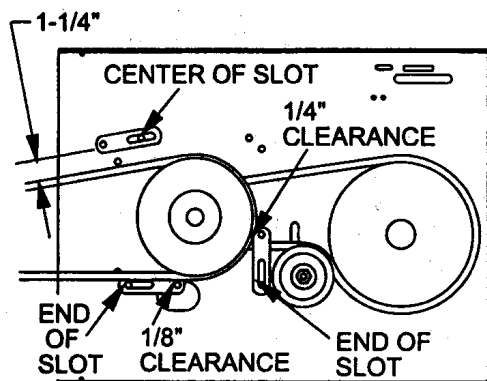

Figure 43
5. Install new belt around engine and drive pulleys (Fig. 43).
6. Slide idler pulley in engine frame to tension traction belt (Fig. 43).
8. Check the belt guides under the engine frame for proper adjustment (Fig. 43). Adjust as necessary. The disengaged belt should not drag or fall off pulley when guides are properly adjusted.